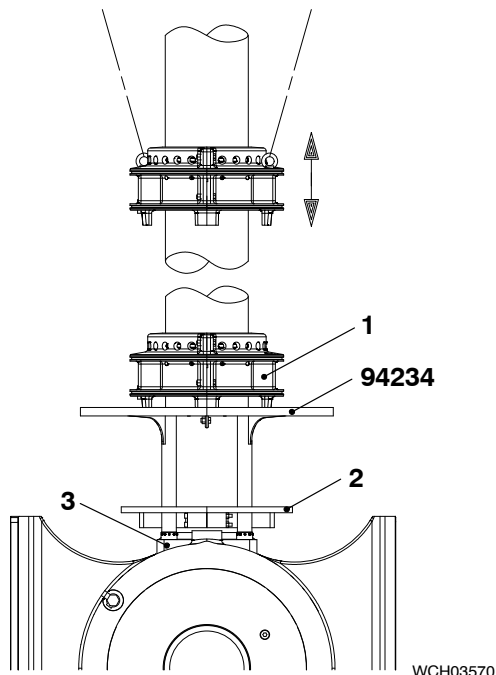

Fig. 11
- 23) Install the assembly platform (94234, Fig. 11) through the support plate (2) on the studs of the piston rod foot (3).